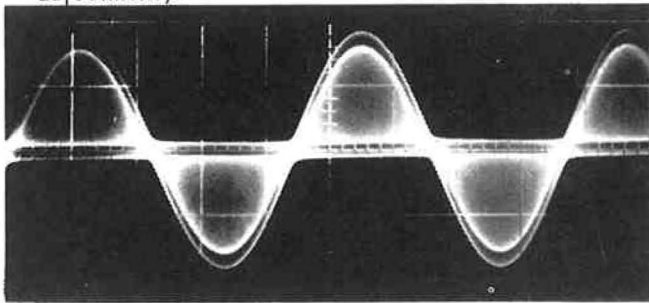
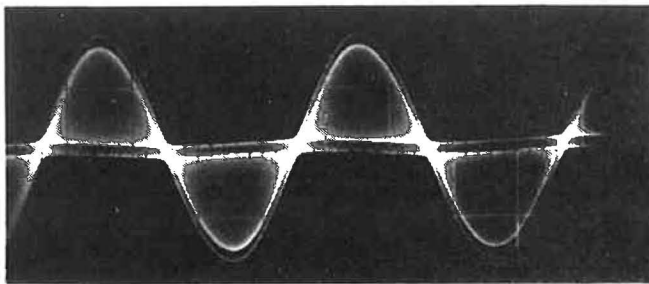

FIG. 16
FIG. 17
13. Select an audio frequency near 10 kHz. Observe the base line of the composite wave form. Alternately adjust the filter-matching series and shunt trimmers, R-20, and R-24 for minimum phase error and straight base lines as shown in Fig. 16. (Fig. 17, improper adjustment).